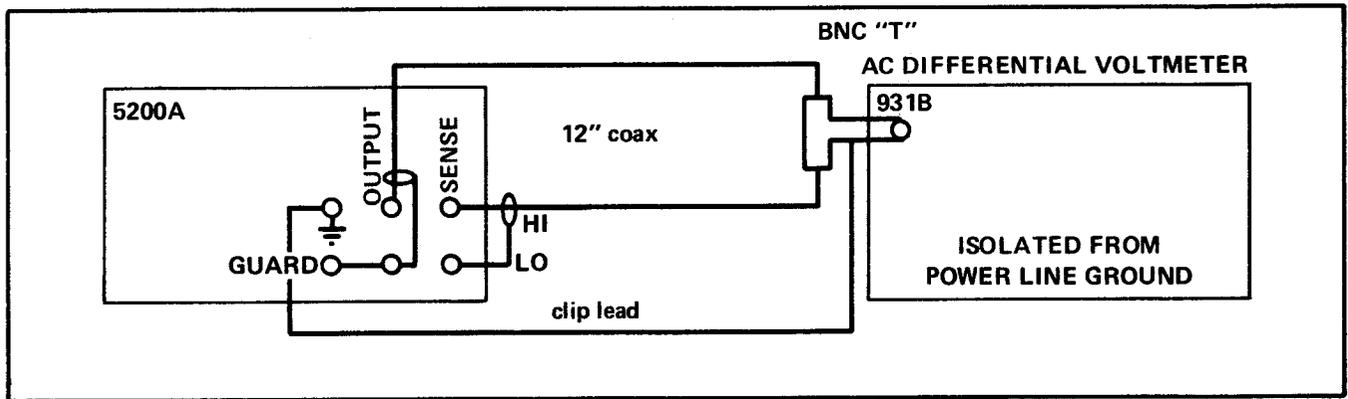

Figure 4-3. OUTPUT ACCURACY ALTERNATE CONFIGURATION
- a. Connect the equipment as shown in Figure 4-3.
4-39. Use the following procedure to perform the millivolt output accuracy test. (Use the specifications listed in Table 4-4 and connect the equipment as shown in Figure 4-3.)
- d. Connect an AC Differential Voltmeter to the 5200A as shown in Figure 4-3.